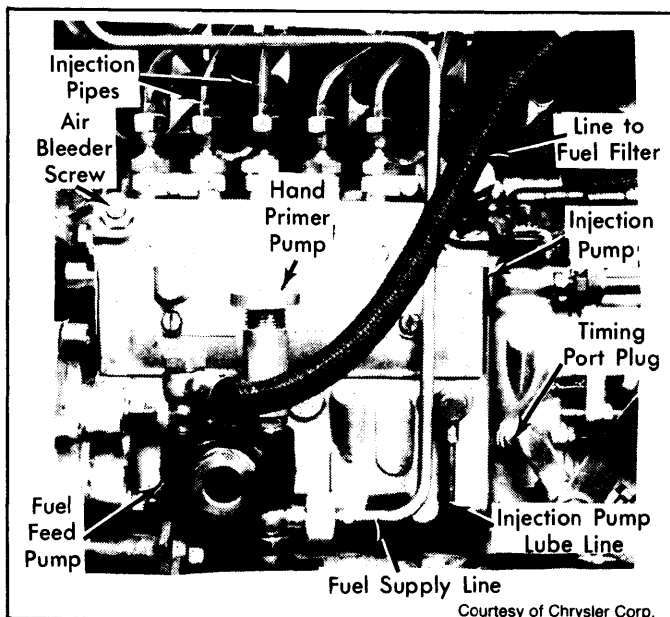

Fig. 2: Chrysler Diesel Injection Pump
- 1) Disconnect batteries and fuel shut off rod at stop lever. Rod end snaps over a ball stud on stop lever. Clean No. 1 delivery valve holder, injection pipe and area near pump. See Fig. 2.